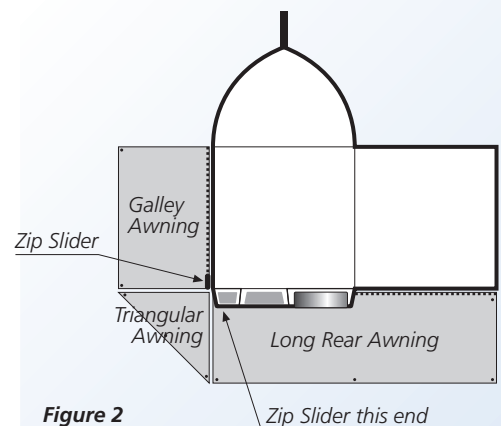

Figure 2
- Lay out the awning items as shown in *Fig. 2*: